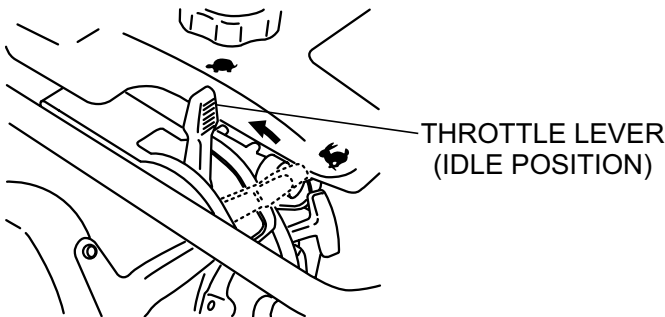
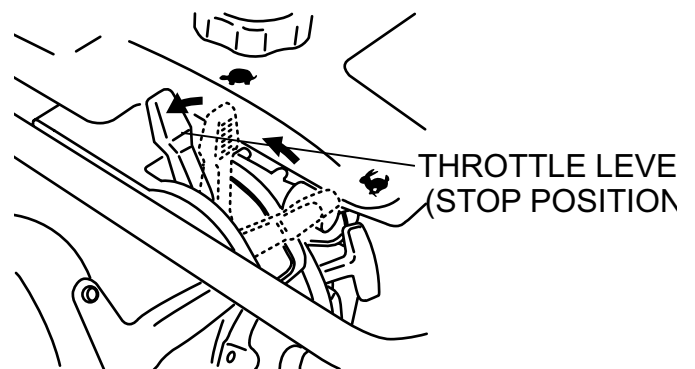

Figure 9. Throttle Lever (Idle Position)
Figure 15. Throttle Lever (Stop Position)
1. Slide the throttle lever from the stop to the idle position (☛) (Figure 9). This opens the fuel cock and the engine electrical circuit is turned on automatically.
3. To stop the tamping action, move throttle lever quickly from the **START** (☛) position to the **IDLE** (☞) position (Figure 9).
1. Move throttle lever quickly from the **START** (☛) position to the **IDLE** (☞) position (Figure 9) and run the engine for three minutes at low speed. After the engine **cools**, move the throttle lever to the **STOP** position (Figure 15). The engine will stop and the fuel cock is automatically closed.